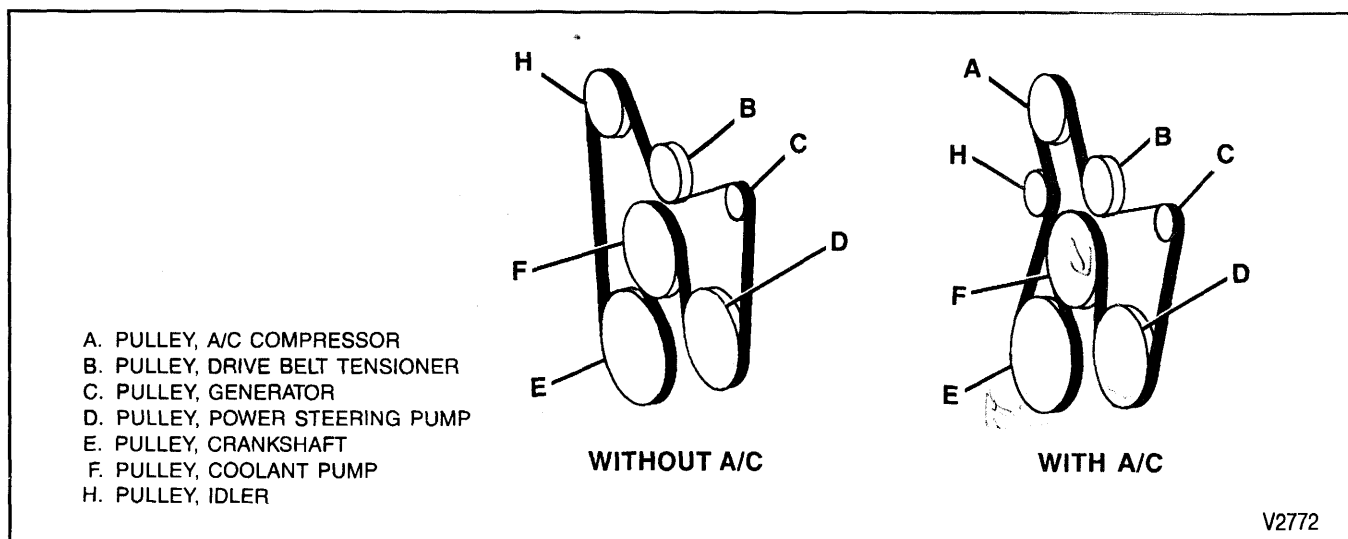

Figure 35—Multiple Rib Drive Belt Routing (4.3L, 5.0L, and 5.7L Engines without A.I.R.)
Install a multiple ribbed belt following the belt routings shown in figures 35, 36, 37, and 38. The grooves in the
- ↔ Remove or Disconnect (Figures 35 through 38)
- Install or Connect (Figures 35 through 38)